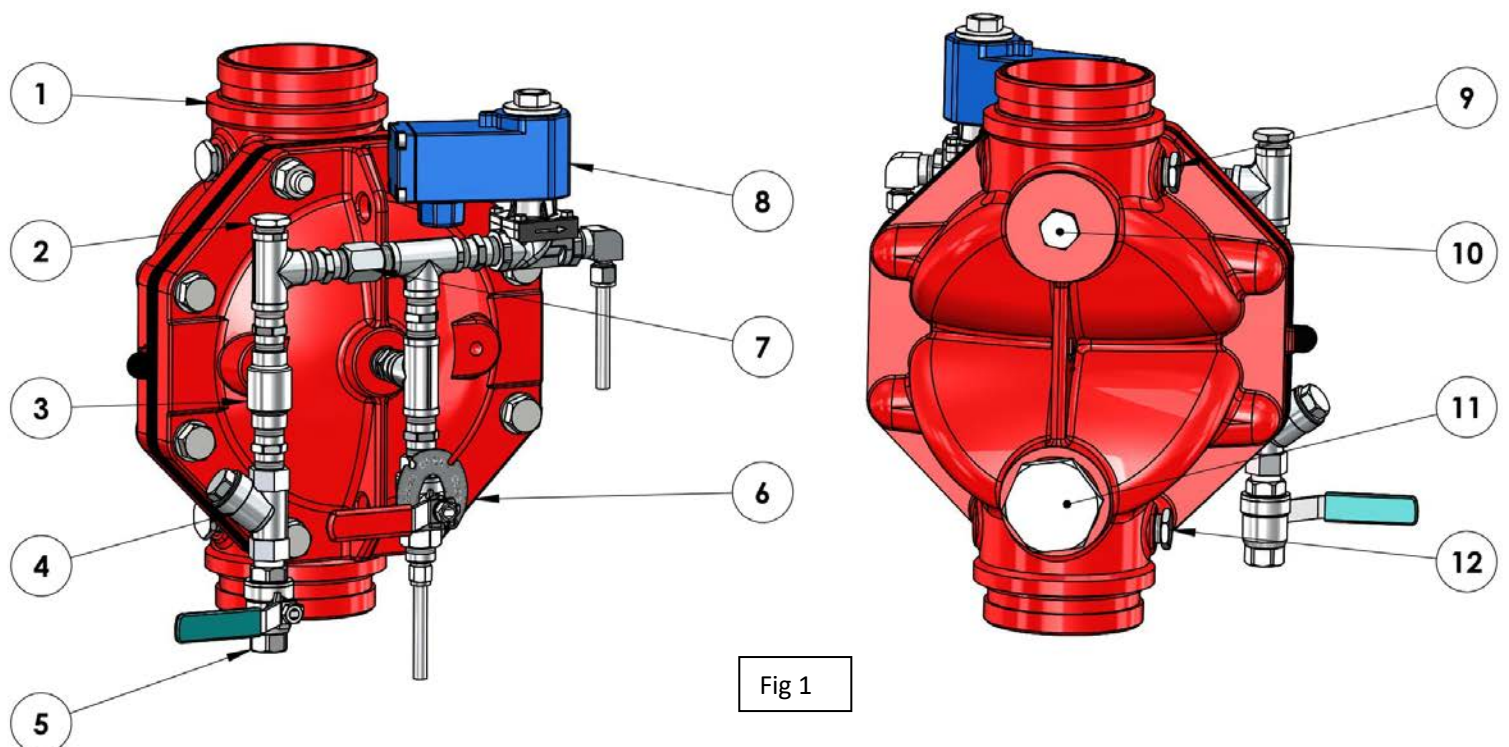

Fig 1
Operation (Reference Figure 1)
8. All connections to water supply, alarms etc. And other optional equipment should be done in accordance with **fig 1**:
5. Make sure the FDV's downstream drain plugged port (**10 fig 1**) is open.
7. Gradually open the upstream separation Butterfly valve (**11**) and make sure the open downstream drain port (**10 fig 1**) is not dripping. A dripping might indicate a FDV valve sealing issue.
8. Leave the downstream drain port (**10 fig 1**) unplugged.